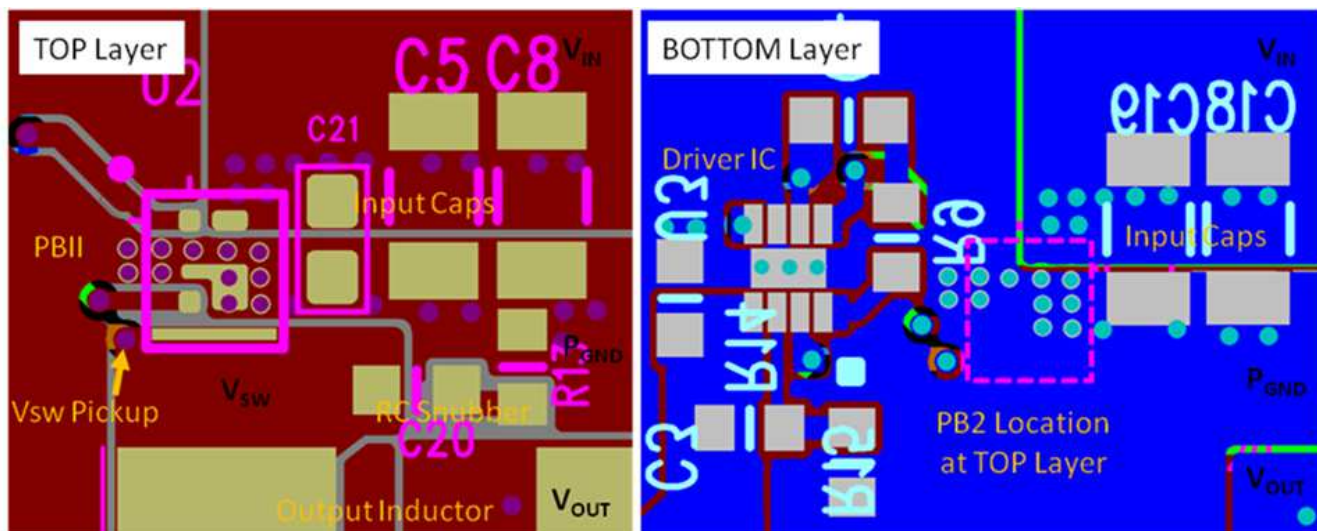

Figure 29. Recommended PCB Layout (Top Down View)
- The switching node of the output inductor should be placed relatively close to the Power Block II CSD87381P VSW pins. Minimizing the VSW node length between these two components will reduce the PCB conduction losses and actually reduce the switching noise level. see Figure 29 (1)
(1) Keong W. Kam, David Pommerenke, "EMI Analysis Methods for Synchronous Buck Converter EMI Root Cause Analysis", University of Missouri – Rolla
- Use the smallest drill size allowed in your design. The example in Figure 29 uses vias with a 10 mil drill hole and a 16 mil capture pad.